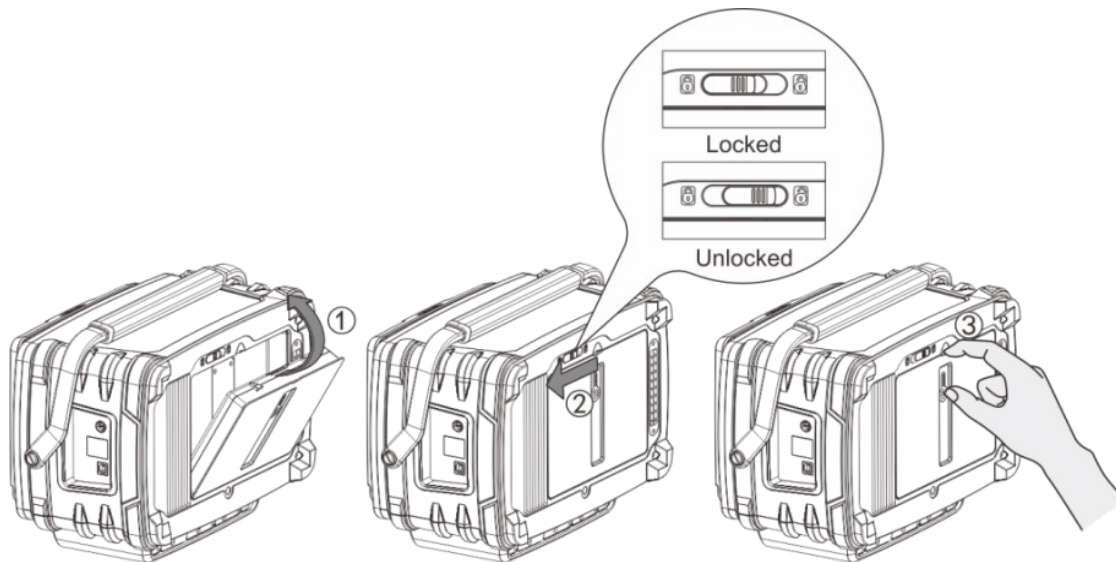

Figure 3 Battery installation
As shown in Figure 3, install the battery: after taking out the battery, insert the battery in the direction shown in step ①,